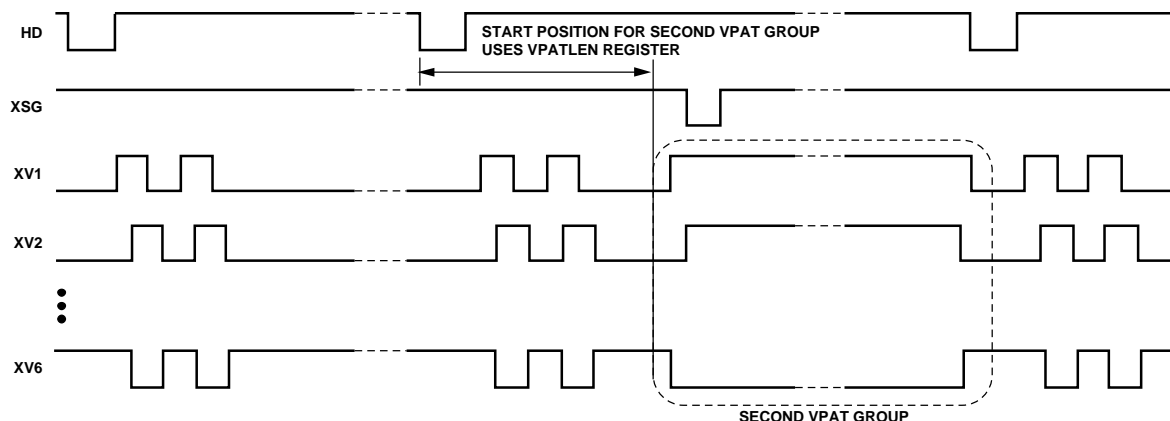

Figure 39. Example of Second VPAT Group during Sensor Gate Line
Most CCDs require additional vertical timing during the sensor gate (SG) line. The AD9925 supports the option to output a second vertical pattern group for XV1 to XV8 during the line when the sensor gates XSG1 to XSG6 are active. Figure 39 shows a typical SG line that includes two separate sets of vertical pattern group for XV1 to XV6. The vertical pattern group at the start of the SG line is selected in the same manner as the other regions, using the appropriate VSEQSEL register. The second vertical pattern group, unique to the SG line, is selected using the VPATSECOND register, located with the field registers. The start position of the second VPAT group uses the VPATLEN register from the selected VPAT registers. Because the VPATLEN register is used as the start position and not as the VPAT length, it is not possible to program multiple repetitions for the second VPAT group.